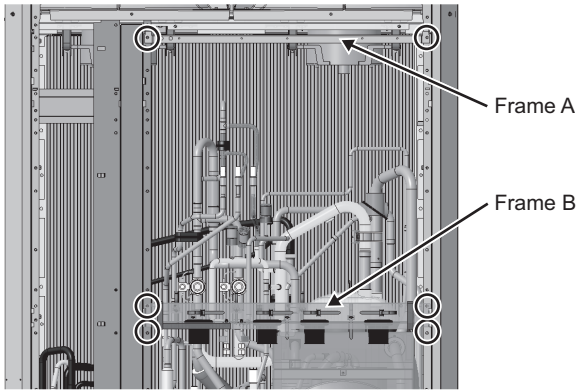

Fig. 80
(4) Remove the wires that are secured to frame B and remove frames A and B. (Six screws: Fig. 80)